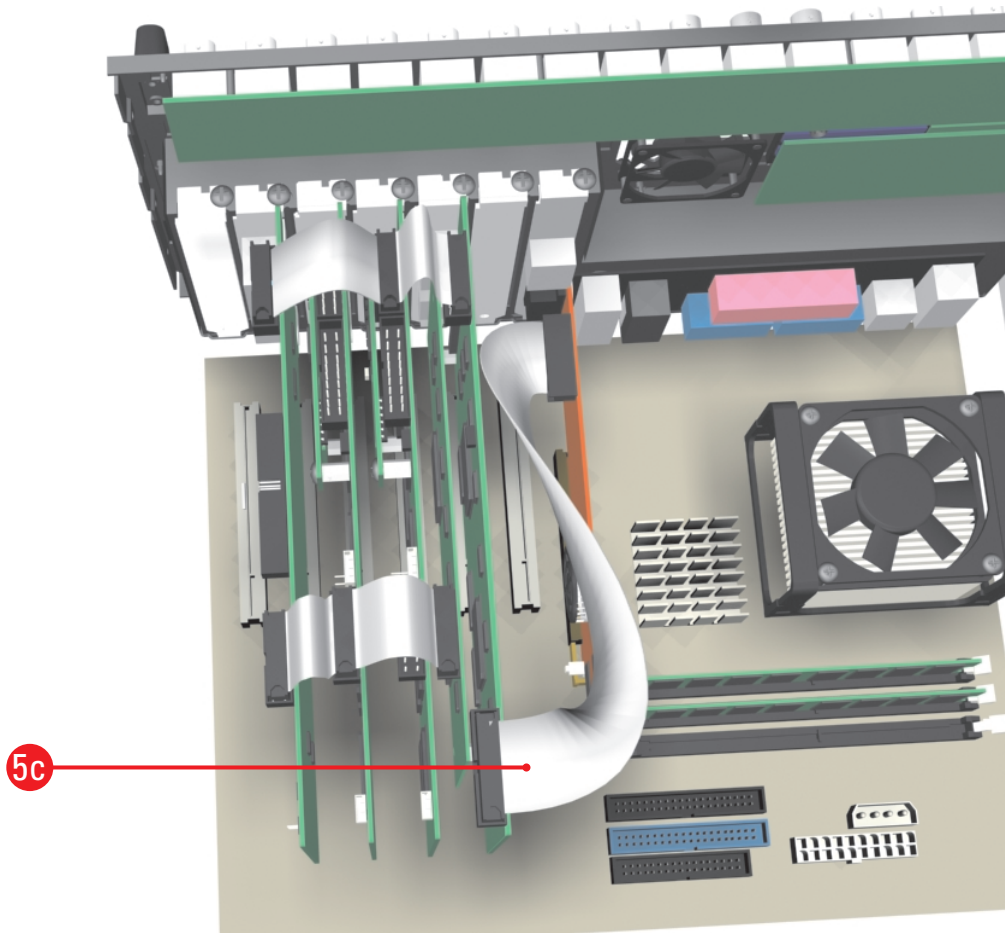

Figure 15. Video Data Cable Connections
- c. Connect the video output ribbon cable from the DX8000-MUX16 card to the VGA card. Refer to Figure 15.